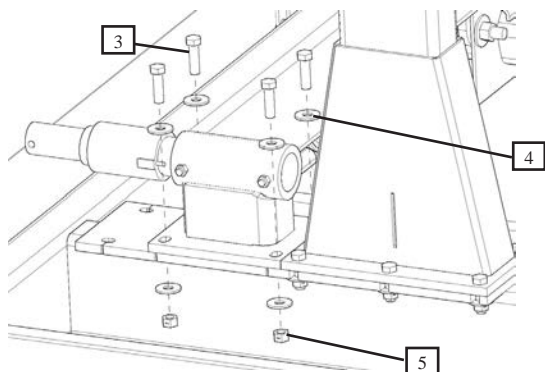

Figure 6.2
4. Lift the shell approximately 2-3". This will allow enough clearance to slide the weigh bars into the Shell/Leg Weldment Spools. (Figure 6.2).
7. Insert 1/2"-13 X 1 3/4" Grade 5 Hex Head Bolt (#3) with two 1/2" Zinc USS Washers (#4) and 1/2"-13 Grade 5 Zinc Centerlock Hex Nut (#5) (Figure 6.2)